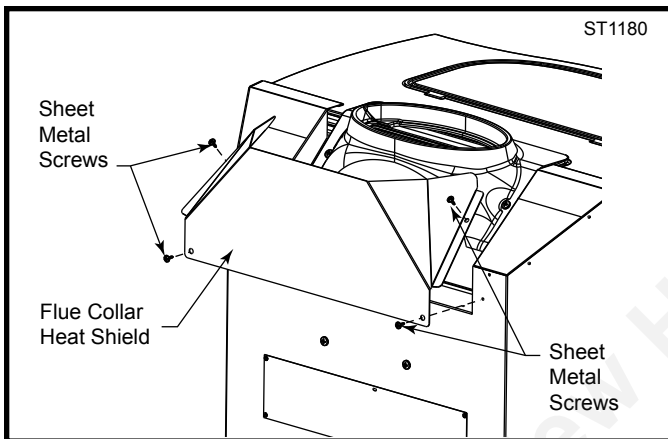

Fig. 23 Install flue collar heat shield.
**WARNING:** The flue collar heat shield must be attached to the Encore® stove. Use four #10 sheet metal screws supplied to secure the flue collar heat shield to the rear of the stove. (Fig. 23)